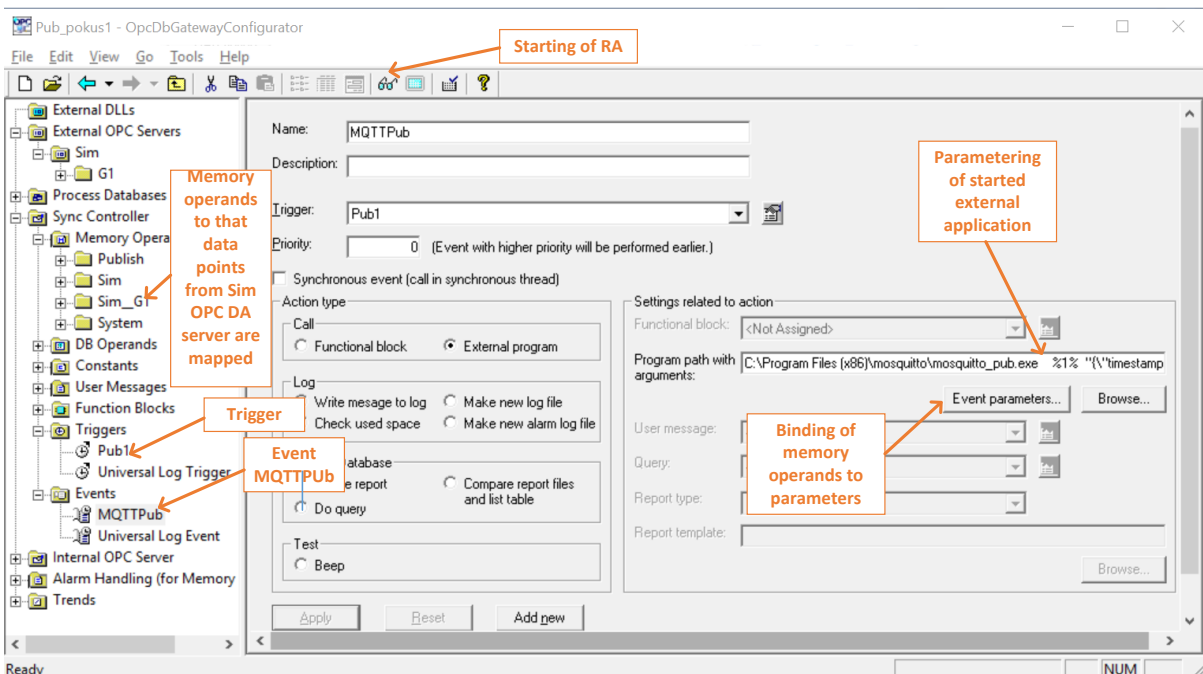

Figure 2 Configuring event to start external application using OpcDbGateway CA
8. Create new event of the type **Start external application** which will use trigger from the step 5, command `C:\Program Files (x86)\mosquitto\mosquitto_pub.exe %1% "{ \"timestamp\": %2%, \"power\": %3%}"` and MOs for actualising parameters `%1%`, `%2%` and `%3%` (Figure 2).
9. Start OpcDbGateway RA from OpcDbGateway CA using icon with glasses (Figure 2).ⁱ